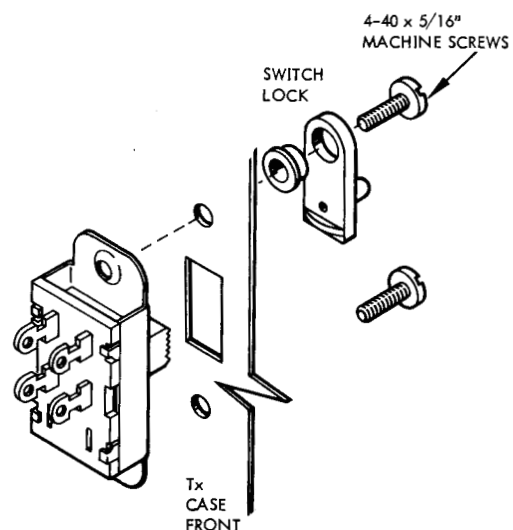

Figure 25. Switch Installation
- 144. Position ON-OFF switch in Tx case, solder lugs up. Secure with two No. 4-40 x 5/16" machine screws through front of case. Note that upper screw also holds switch lock in place. (Figure 25)